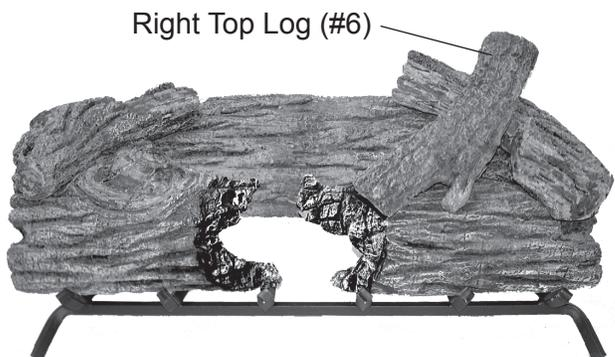

Figure 37 - Installing Right Top Log (#6)
- Install right top log #6 as shown. See Figure 37.